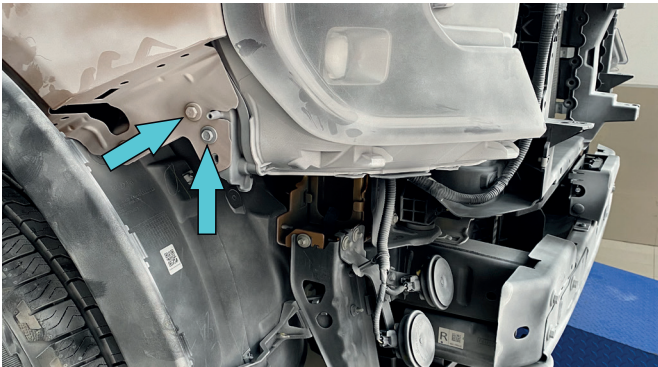

Fig.32
32. Unscrew OE screws on both sides of the vehicle as shown in fig. 32.